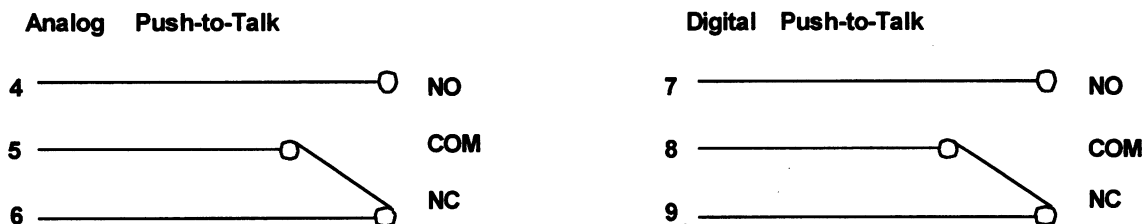

Figure 2-6. Form C Relays
3. Loosen the connector screws at terminals 4 through 9 for the analog and digital push-to-talk functions. Each push-to-talk output from the Transmitter Controller is a form C relay closure as shown in Figure 2-6. Make the necessary push-to-talk connections to the mating connections and tighten the screws.